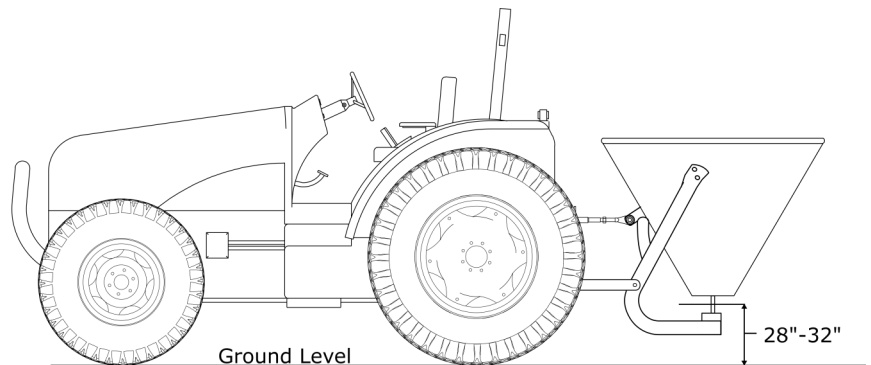

Fig. 1
4. Adjust the height of the spreader to approximately 28"-32" from the bottom of the spreader disc to ground level, (Fig. 1).